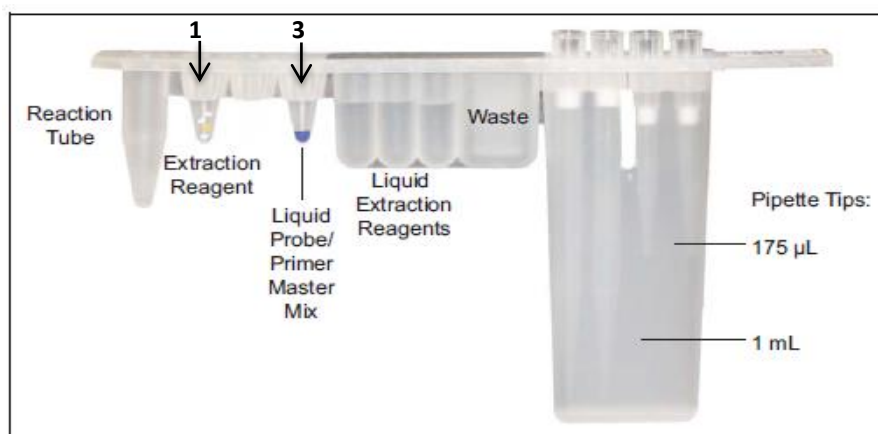

Figure 1: DNA Unitized Reagent Strip setup.
2.2.b. Snap a DNA extraction BD Exk-1 Reagent tube (white seal) into position **1** of the DNA Strip, see Figure 1.
2.2.c. Snap a CPE Screen reagent tube (blue seal) into position **3** of the DNA Strip, see Figure 1.